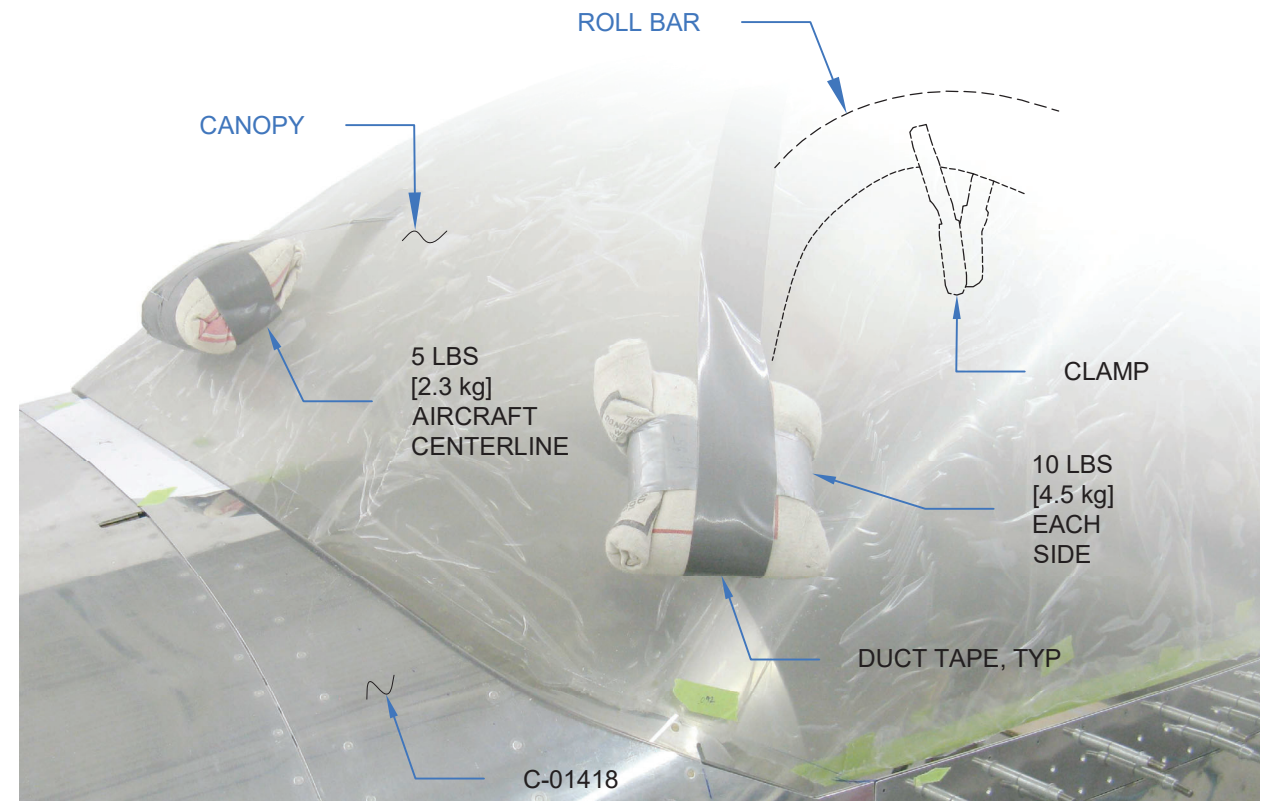

FIGURE 4: WEIGHT & CLAMP CANOPY
Step 9: Weight down the forward edge of the canopy as shown in Figure 4. A ratchet strap looped over the canopy from between the wing attach stubs also works well here. Ensure continuous contact between the forward edge of the canopy and the canopy skin. Verify that the Aft Canopy Assembly is securely clamped to the roll bar.